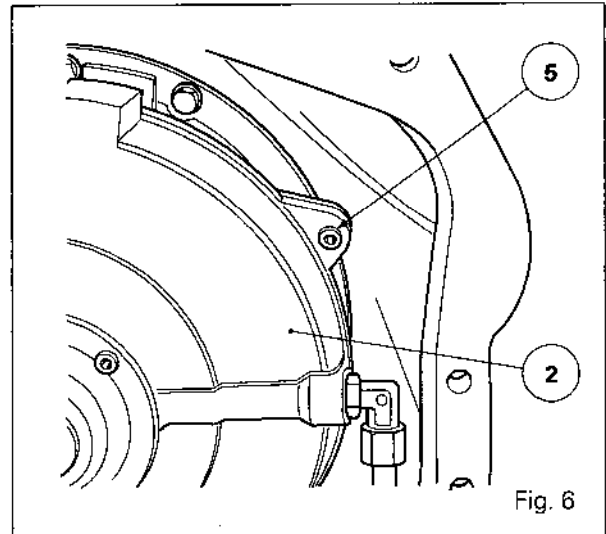

Fig. 6
11. Fit sleeve made locally (see § G) on shaft (7) (Fig. 7) (if necessary). Remove screws (5) (Fig. 6). Clean the location of screws. Replace screws and fit three M14 screws in the tapped holes of housing (2).